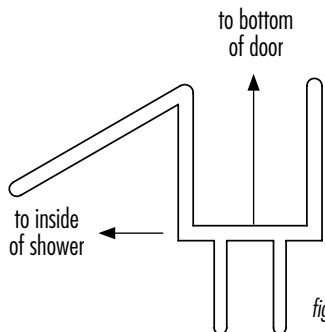

figure 35
11. Locate the clear door sweep and attach it to the bottom of the glass door. The reflective shield should face into the shower (*fig. 35*).
17. Locate the plastic H shaped seal. It goes on the door strike side, opposite of the hinge (*fig. 35*). Measure and cut the seal to length.